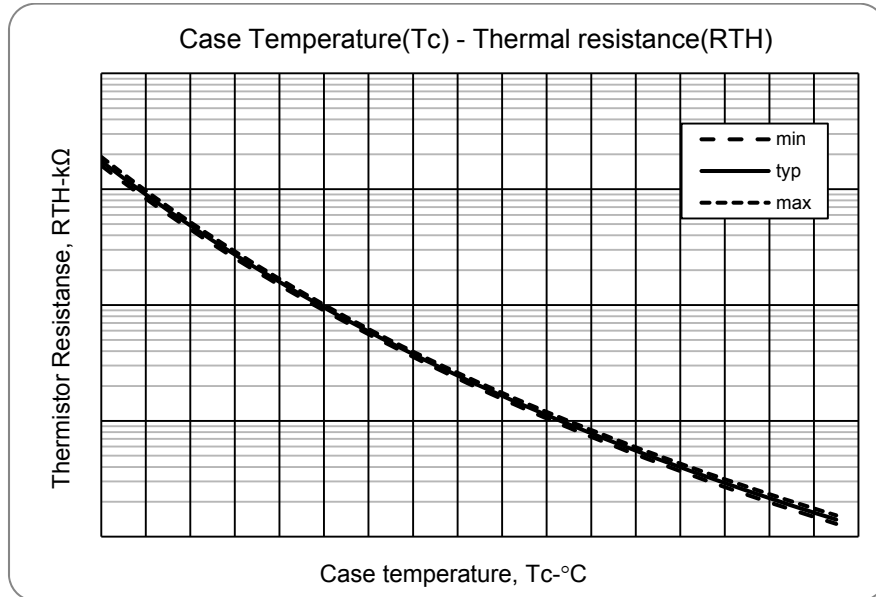
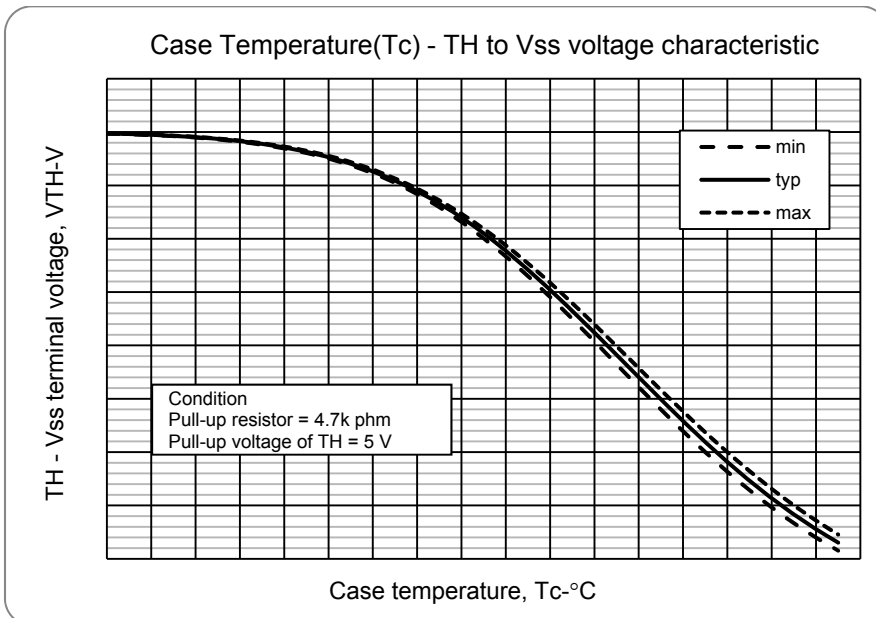

Fig.9 Variation of thermistor resistance with temperature
Fig.10 Variation of temperature sense voltage with thermistor temperature
4. Inside the IPM, a thermistor used as the temperature monitor for internal substrate is connected between V_{SS} terminal and TH terminal, therefore, an external pull up resistor connected between the TH terminal and an external power supply should be used. The temperature monitor example application is as follows, please refer the Fig.9, and Fig.10 below.